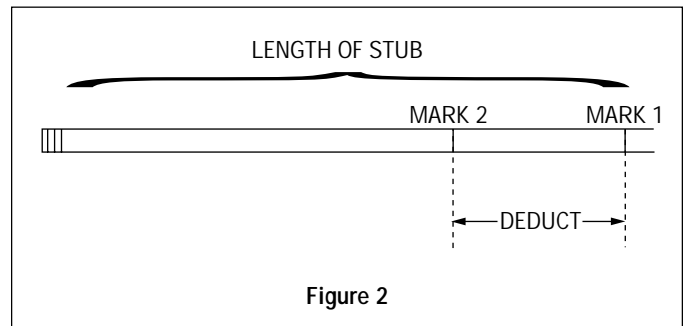

Figure 2
3. Measure and mark the stub length on the conduit. This is mark 1. Subtract the deduct from the stub and mark the conduit. This is mark 2, or the bending mark. See Figure 2.